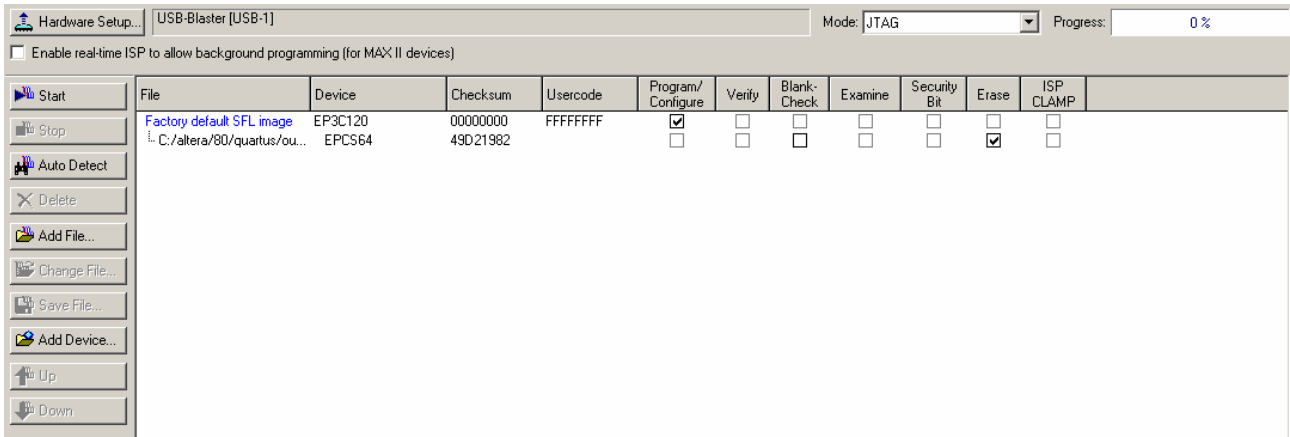

Figure 0.6 Erasing setting in Quartus II programmer window
4. Erase the serial configuration device by checking the corresponding **Erase** box, a Factory default SFL image will be load (See Figure 0.6).